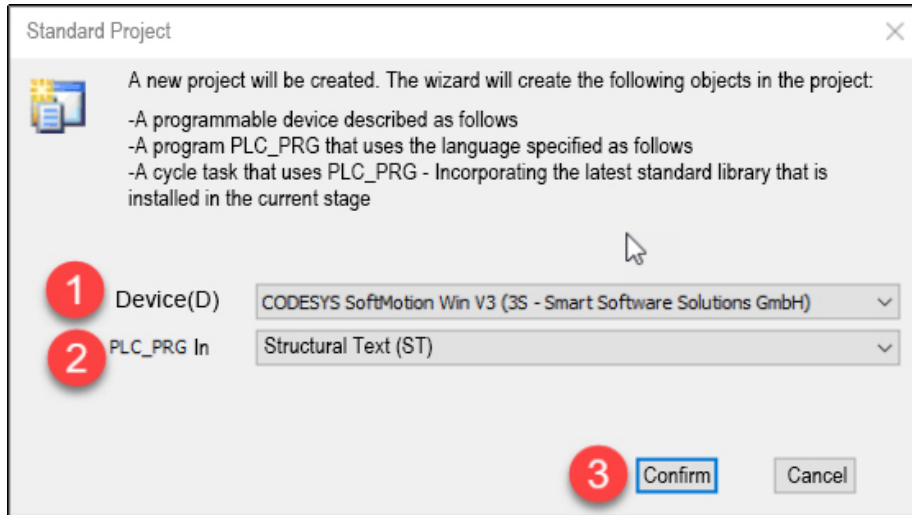

Fig. 5-2-34. Select Device and Programming Language
Select " CODESYS SoftMotion Win V3" in the standard project window. Select "Structured Text" (ST) for PLC\_PRG programming language as shown in Fig. 5-2-34.